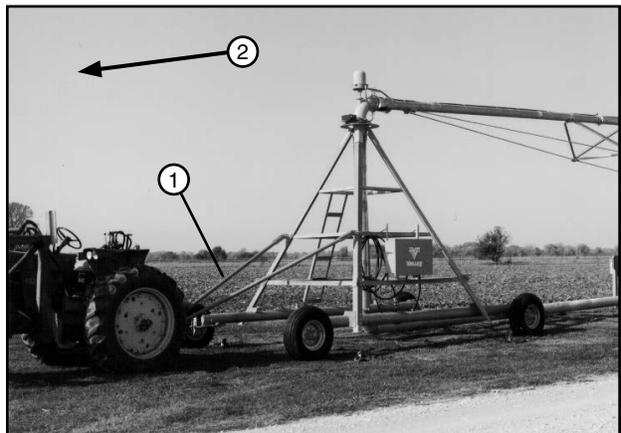

Figure 54-3 1. Tongue
10. If necessary, move the tongue to the side of pivot that faces the towing direction. See Figure 54-3.